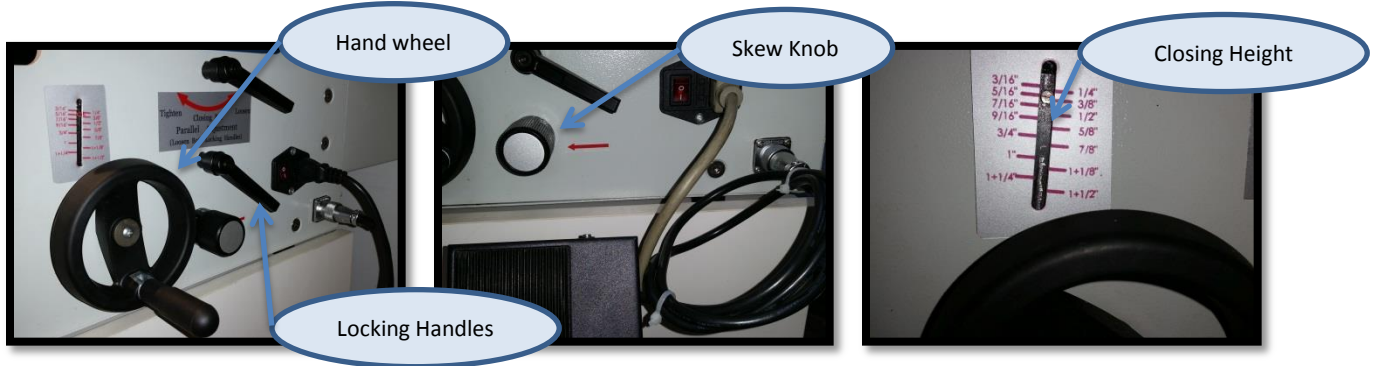

Figure 10
- a. **Closing Bar Height Adjustment:** Turn the hand wheel until the indicator matches the correct wire size being closed. Figure 10
- b. **Closing Bar Skew Adjustment:** If the wire is closed more on one side compared to the other side, this can be adjusted by turning the knob located next to the hand wheel. You will first have to loosen both locking handles before the knob is moved. Figure 10